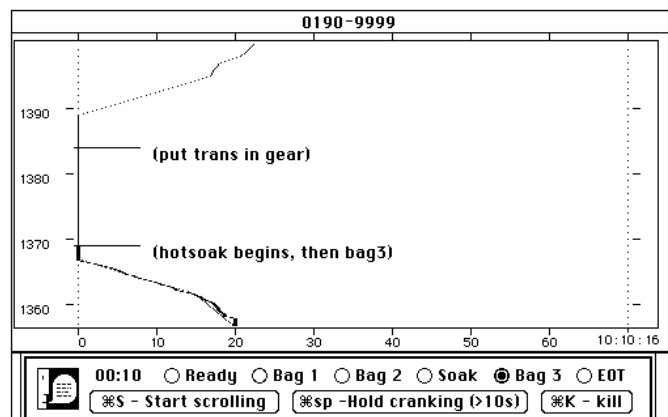

Figure 15
- 332 If the vehicle engine starts and continues to run, start the VDA trace scrolling by pressing <Command-S>, following the instructions at the bottom of the screen. See Figure 15.